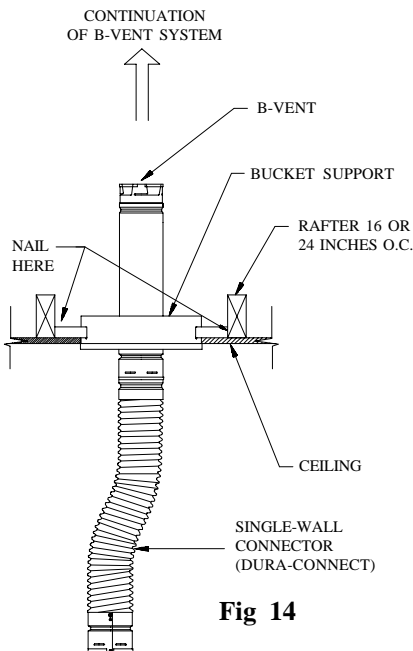

Fig 14
2. Assembly. After you have determined where the B-vent should be located, assemble the **Bucket Support** and **Brackets**. Nail the assembly to the bottom side of the joist material as shown in Figure 14. After the **Support Bucket** is in place, scribe and cut out a hole in the sheet rock 1/8" larger than the diameter of the **Bucket**, and